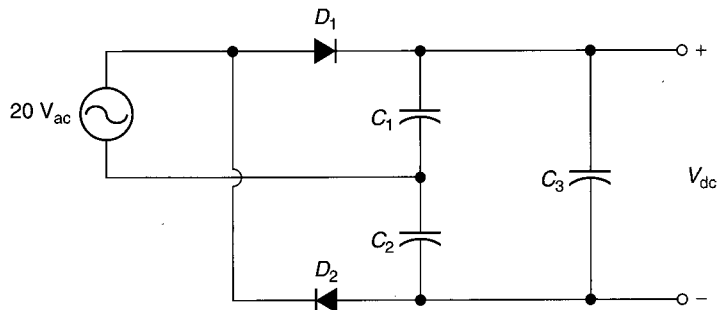

FIGURE 4.40
- 26.** Determine the dc output voltage for the circuit shown in Figure 4.40. Assume that the diodes are ideal components.